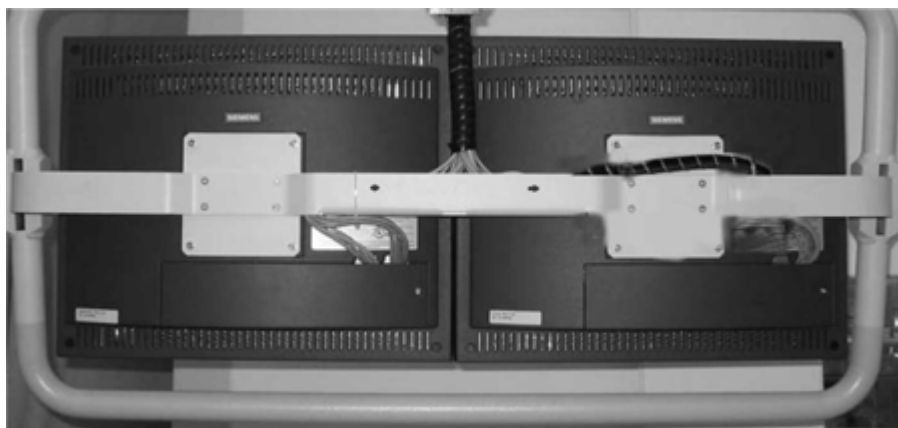

Fig. 50: Monitor installation
- Fasten the cables via cable ties to the traverse element (Fig. 50 / p. 73).